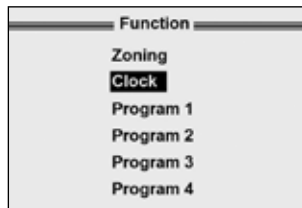

Figure 13.
- Use the  or  button to select the 'Clock', and then press  button to enter the sub menu of the clock setting (Figure 13).